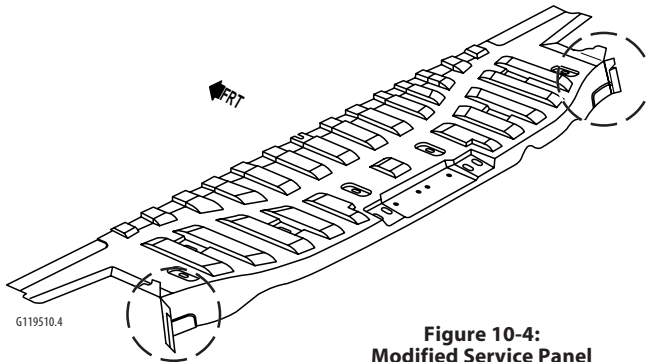

Figure 10-4:
3. Cut and bend each side of the floor panel extension as shown in figure 10-4, place the front edge of the extension panel in position first, then bring the rear of the service part into place and straighten the bent tabs.